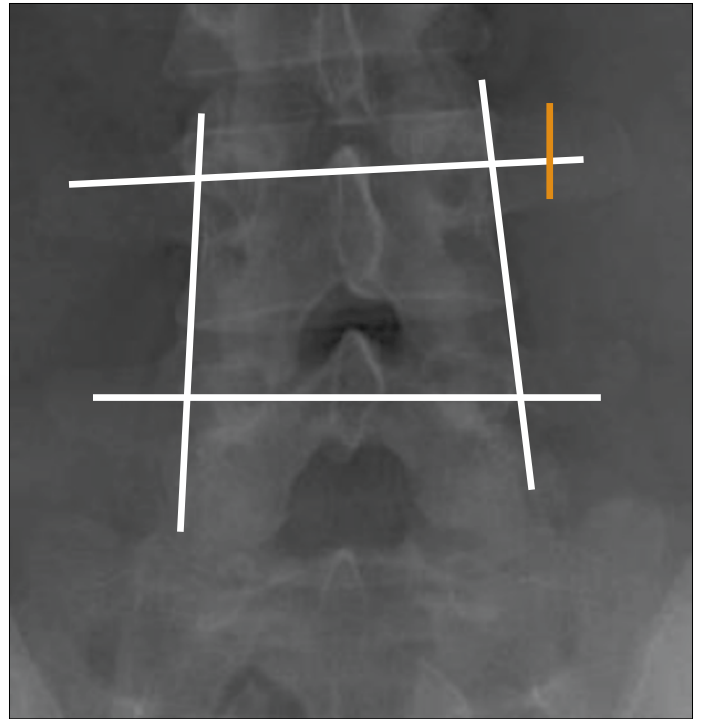

FIG. 1
- Make the incision approximately 1cm lateral to the line intersections. The incision location may need to be slightly more lateral in larger patients. (FIG. 1).